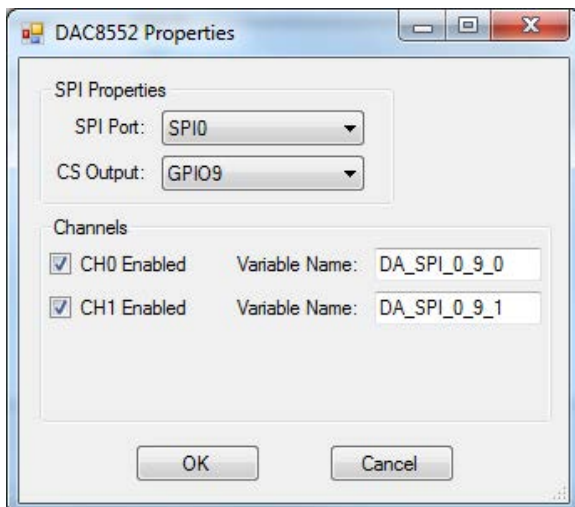

Figure 15-22
Select the SPI port from the drop down menu and select the general purpose output pin (GPO) that will serve as this device's chip select (CS). See Figure 15-22. Any chip select pins reserved for structured text will not be visible in the drop-down menu.